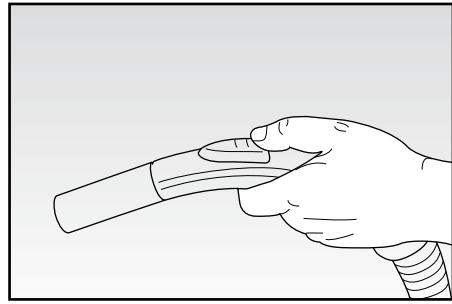

Fig. 5
The secondary air valve (P) is located on the handgrip and it is used to adjust suction power (FIG. 5).